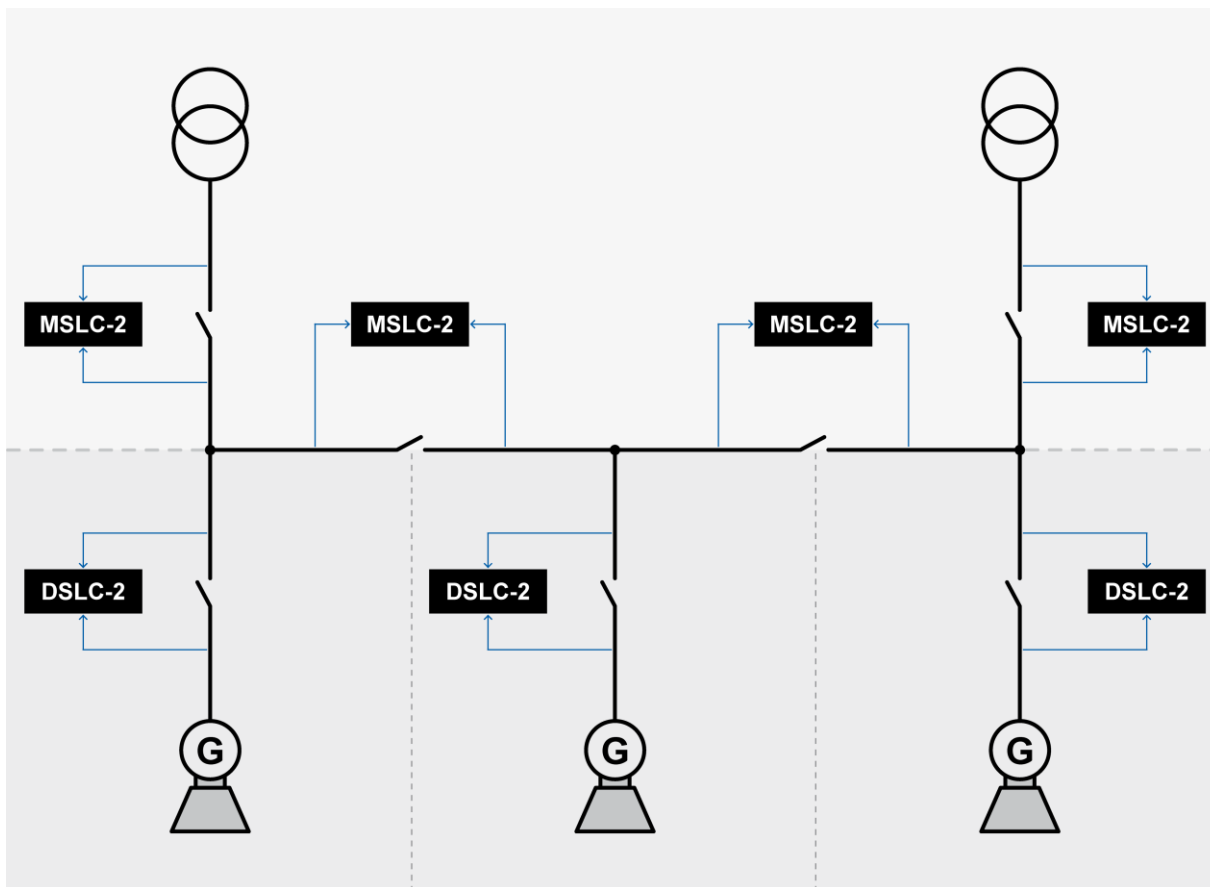

Figure 3-117: Example of an online diagram – step 1
1. Draw an online diagram of your application with all generators, breakers and utility inputs. Then arrange the DSLC-2 and MSLC-2 at the according breaker. Refer to Figure 3-117.